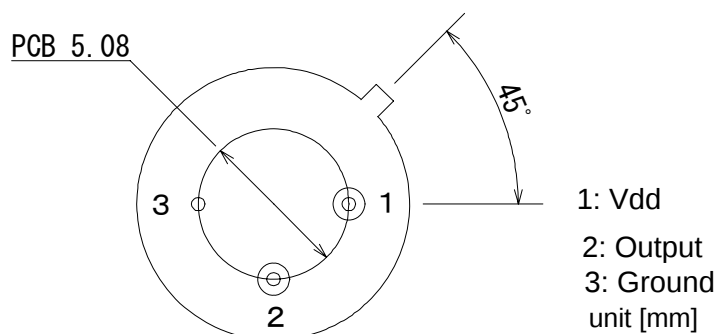

Fig. 1 : Dimensions (Flat package type)
3.1. Package	TO-5 metal can with dimensions shown in Fig.1. (Nickel-plated)
3.3. Element orientation	See Fig.1
3.4. Lead configuration	See Fig.1
5.1. Field of View	134 ° from center of element on axis X 120 ° from center of element on axis Y See Fig. 1
Configuration (Figure 1)
(Figure 1-a)
(Figure 1-b)
(Figure 1-c)
(Figure 1-d)